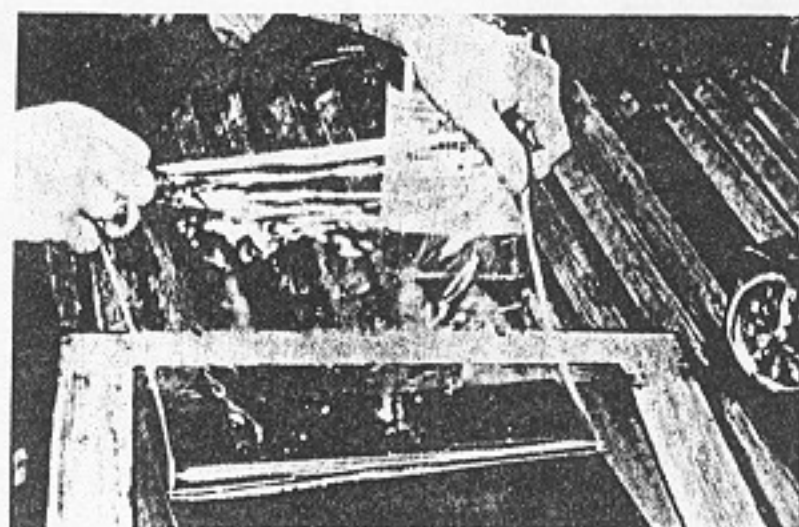

Fig. 154. Remove Back Sheet
7. The back is then stripped off, Fig. 154, open areas on the screen are blocked out and the screen is ready for printing.